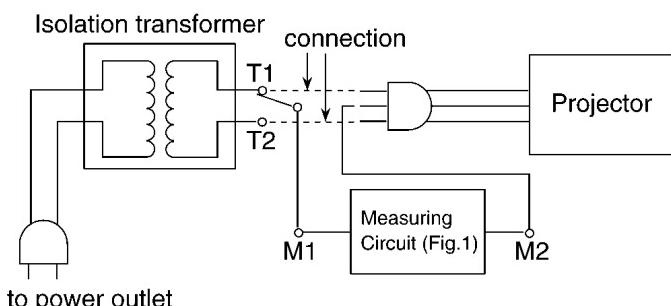

Fig. 2
- Assemble the circuit as shown in Fig. 2. Plug the power
- Connect M1 to T1 according to Fig. 2 and measure the voltage.